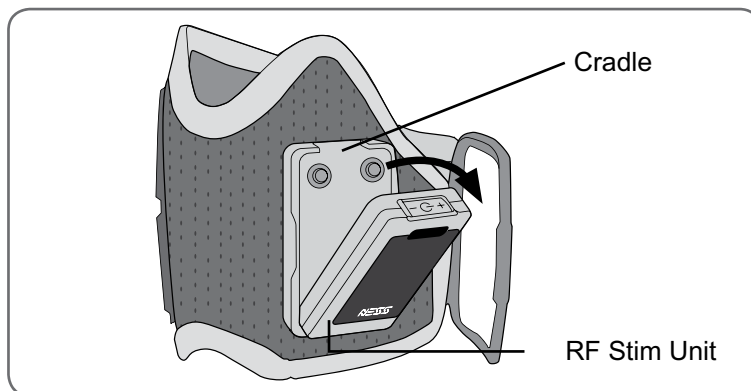

Figure 8-11: Removing the RF Stim Unit.
2. Pull the top of the RF Stim Unit away from the cradle. See Figure 8-11. If the fit is too tight, open the flexible cover over the charging port for a better grasp.